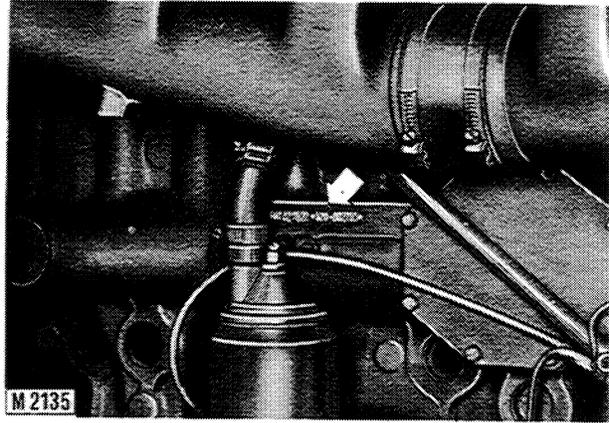

Fig. 1-4 - Type and serial number of engine.
- the type and number of engine (Figs. 1-4)